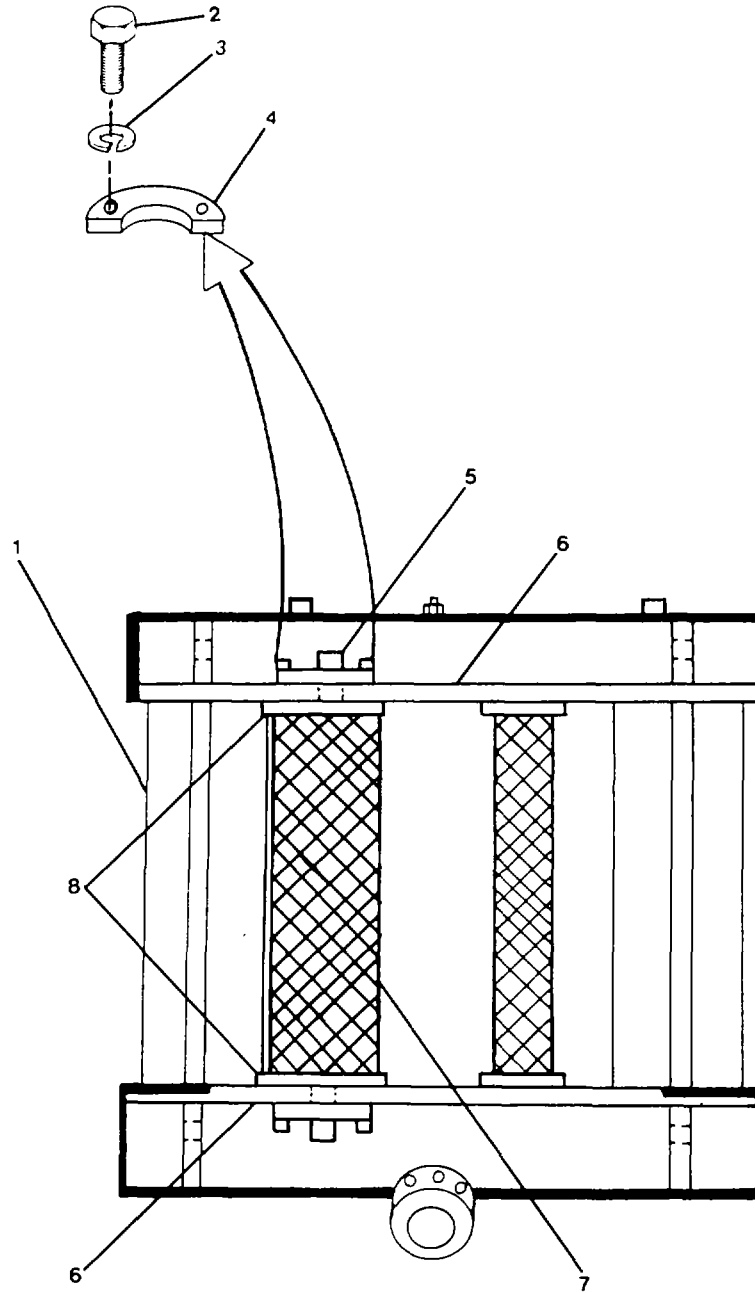
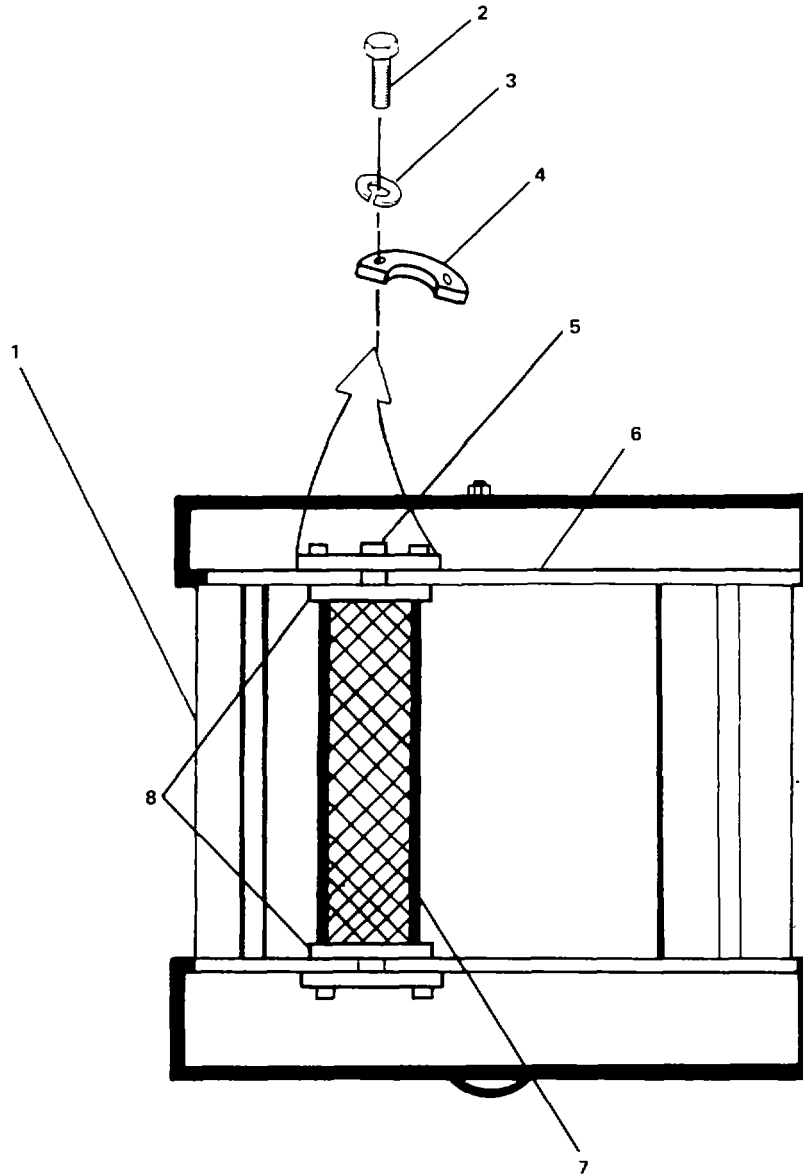

FIGURE 4-11. Levelwind Vertical Roller.
FIGURE 4-12. Levelwind Vertical Roller (Opposite Side).
l. Levelwind Vertical Rollers. (FIGURE 4-11)
- (1) Position levelwind carriage (1) with levelwind vertical roller (7) exposed for disassembly.
- (2) Remove two hexagon head machine bolts (2) and lockwashers (3) securing keeper (4) on both ends of shaft (5).
- (3) Remove keeper (4).
- (4) Support roller (7) as shaft (5) is withdrawn from roller (7) and out of shaft support brackets (6).
- (5) Remove shaft (5) and roller (7). Be sure to catch washers (8) when withdrawing shaft (5).
- (6) Reposition levelwind carriage (1) with levelwind vertical roller on opposite side exposed for disassembly (FIGURE 4-12).
- (7) Remove two hexagon head machine bolts (2) and lockwashers (3) securing keeper (4) on both ends of shaft (5).
- (8) Remove keeper (4).
- (9) Support roller (7) as shaft (5) is withdrawn from roller (7) and out of shaft support brackets (6).
- (10) Remove shaft (5) and roller (7). Be sure to catch washers (8) when withdrawing shaft (5).
- (11) Position levelwind vertical rollers (7) on a clean flat surface for disassembly.